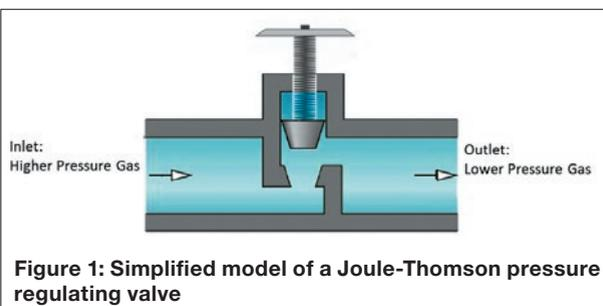

Figure 1: Simplified model of a Joule-Thomson pressure regulating valve
Pressure reduction is most commonly accomplished through the installation of Joule-Thomson (JT) regulating valves, which reduce the gas pressure to the desired level. A simplified JT valve is shown in Figure 1. It consists of a mechanical valve, which is throttled to create the desired pressure differential between the inlet and outlet. The JT PLD device is a simple and generally effective tool for pressure reduction, but a by-product is waste heat.